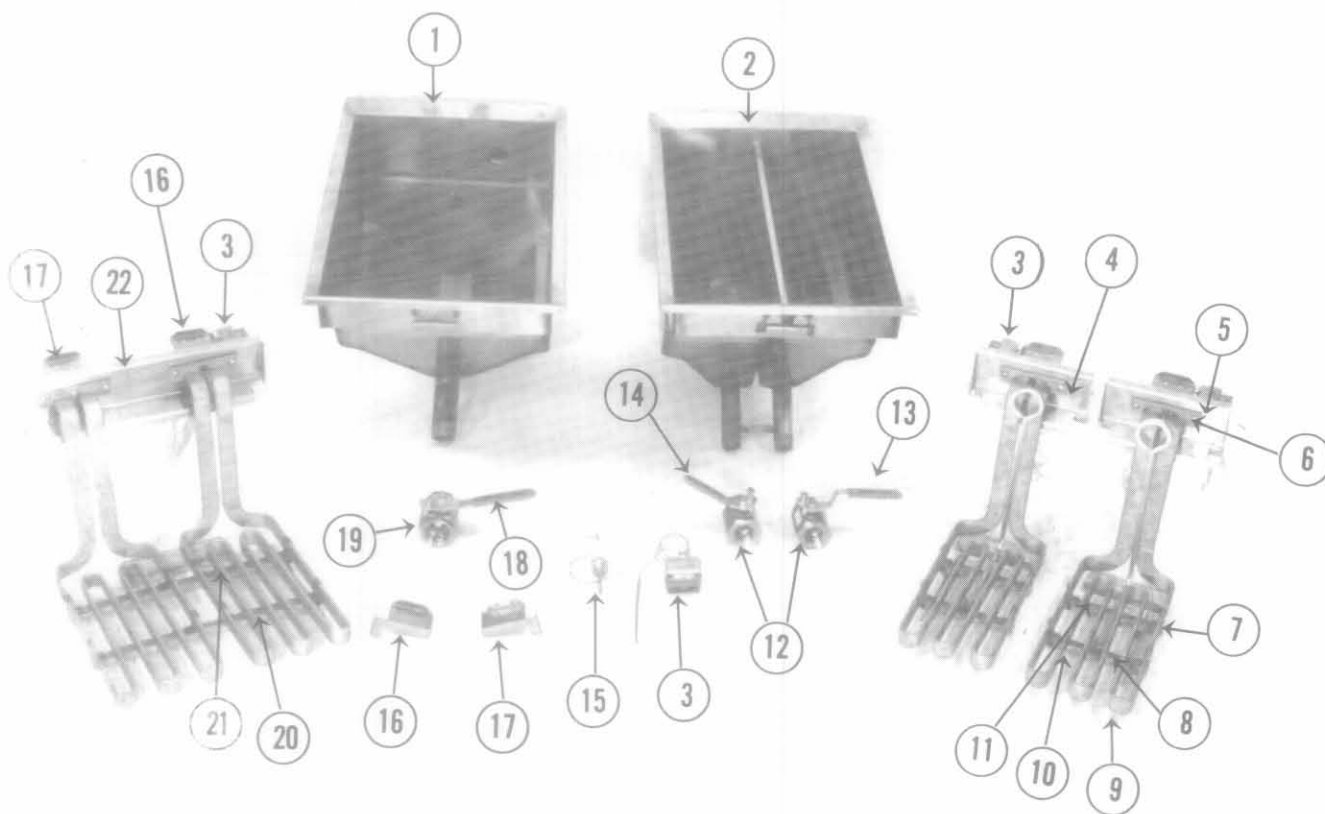

Figure 8
16. PARTS LIST (CONT'D)-Frypot and Associated Components (Refer to Figures 8, 9, & 10)